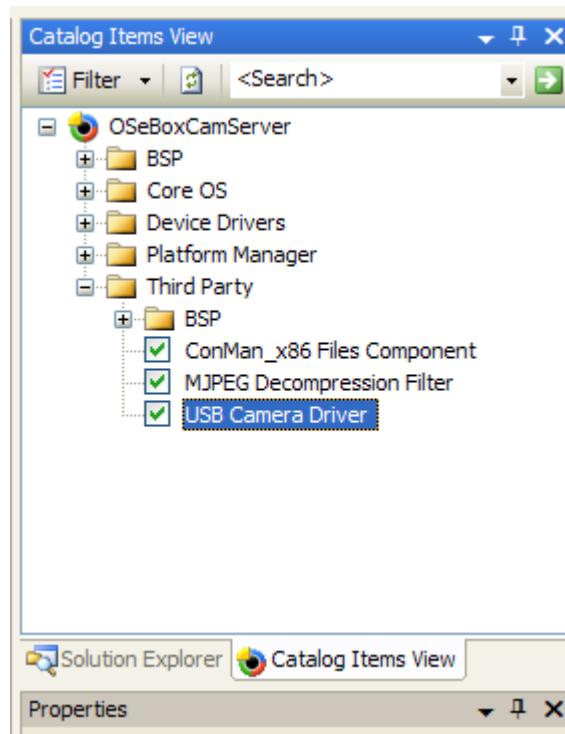

Figure 45. Windows Embedded CE 6.0 Catalog Items View
8. Select ConMan_86 files components for communication and application deployment from Third Party directory as shown in figure 45.